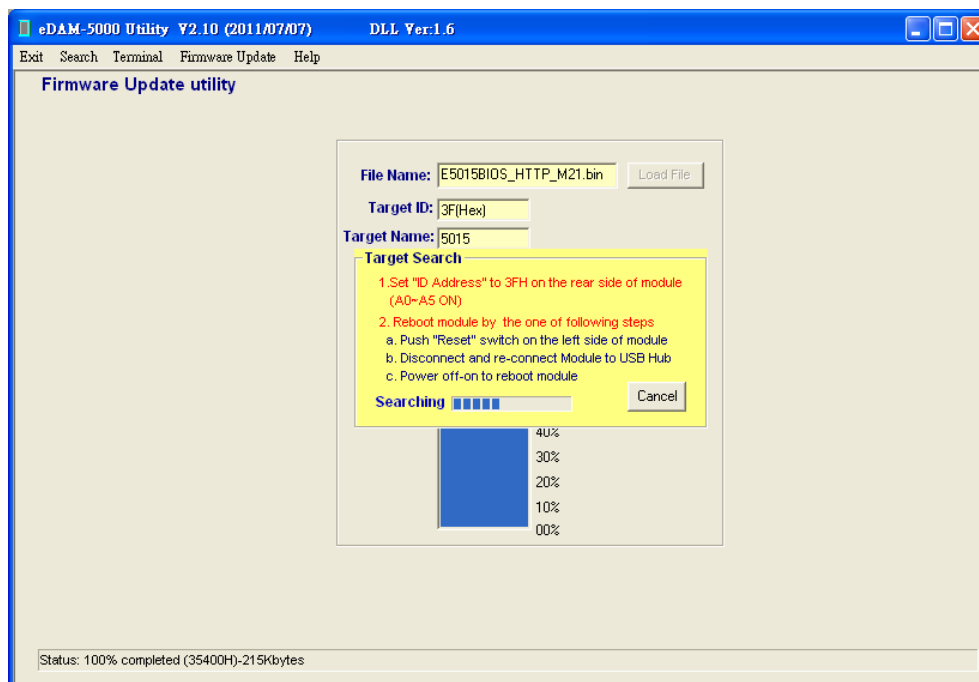

Figure 8
7. The Utility is searching module. Power-off /on the module or press **“Reset button”** at the down side of the module to **reboot** the module. (see Figure 8)